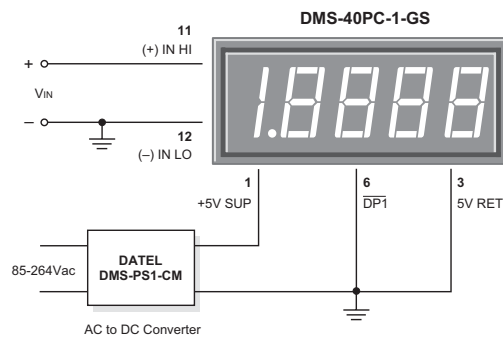

Figure 2. Single-Ended Input Configuration
- 1. Single-Ended Input Configurations:** The DMS-40PC can measure single-ended signals with either positive or negative polarities. True single-ended inputs always have one of their two terminals at the same potential as the DMS-40PC's 5V RETURN (pin 3). Single-ended inputs are usually derived from power supplies that have a common ground with the meter's +5V supply. Figure 2 shows the recommended connections to be used with this type of input. Pin 12, (-) INPUT LO, is shown directly tied to ground. This connection to ground must be a separate wire or pc-board trace originating at  $V_{IN}$ 's negative terminal. This hook-up will normally eliminate display instabilities and errors caused by ground-loop currents which can occur if (-) INPUT LO is tied to ground at, or near, pin 3.